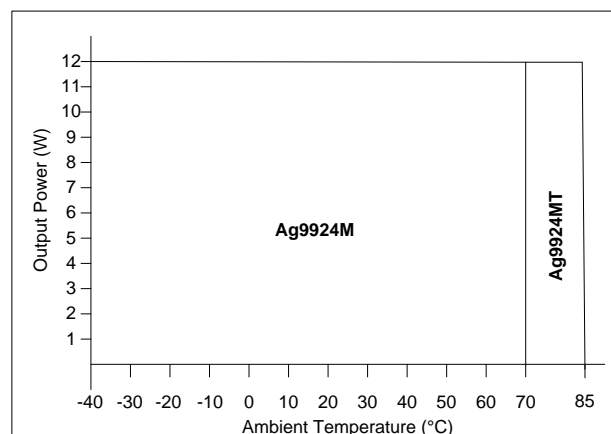
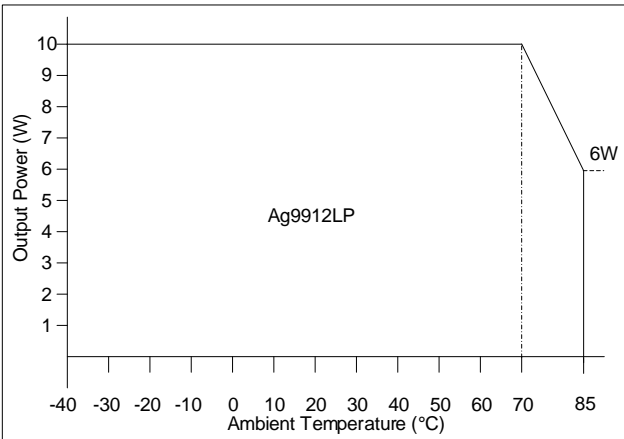
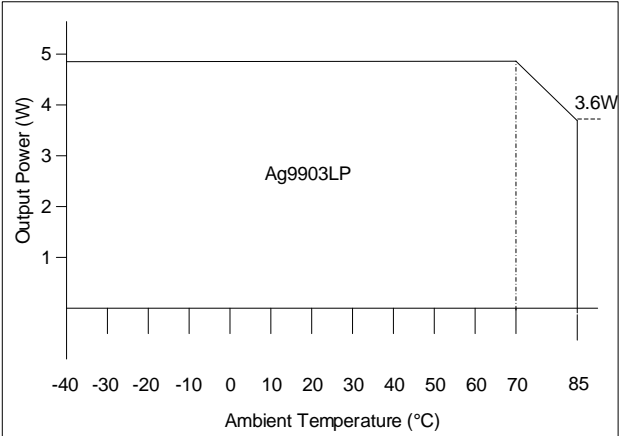
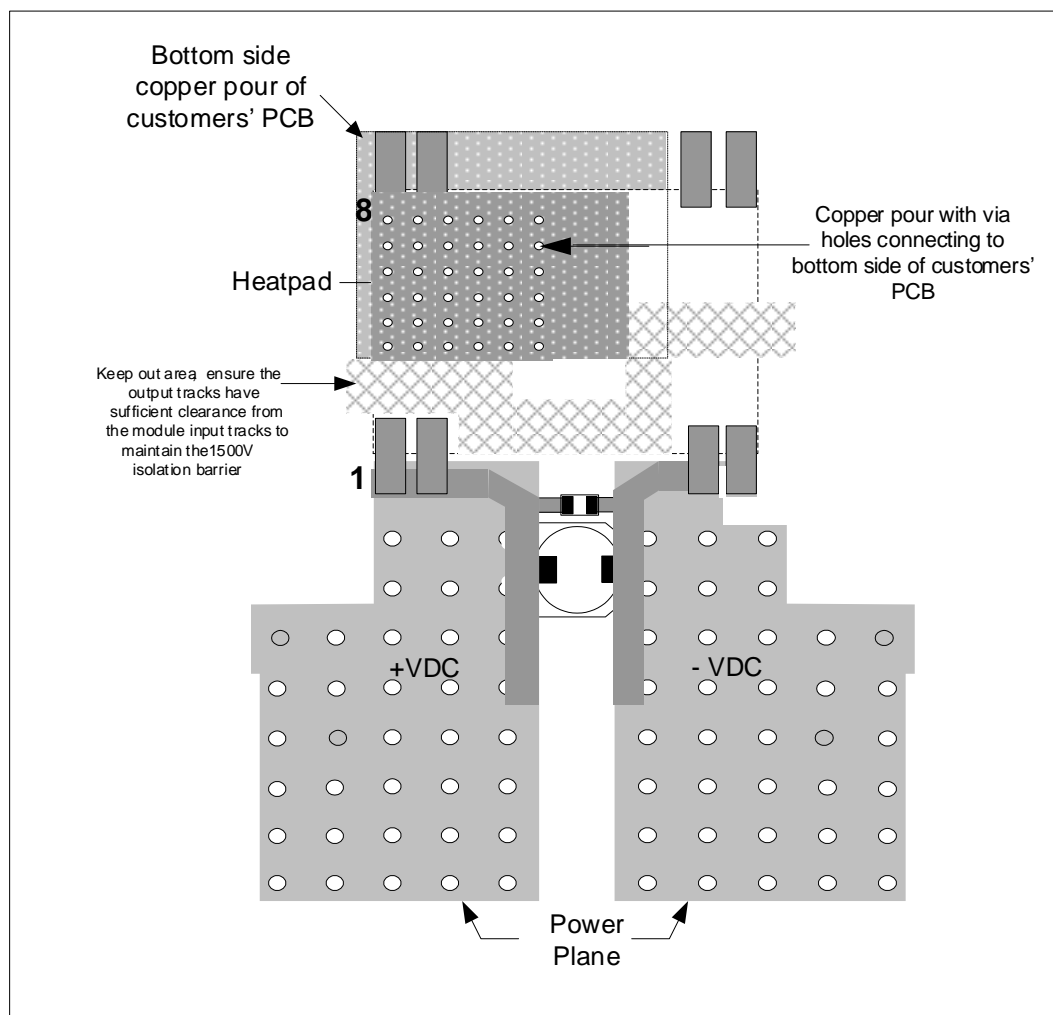

Figure 8: Ag9924M Operating Profile
Figure 10: Ag9912LP Operating Profile
Figure 14: Ag9903LP Operating Profile
Figure 15: Ag9900M Thermal Relief
The thermal protection reduces the output power, see Figure 8 through Figure 14, to ensure that the maximum component temperature is not exceeded. Full output power will be restored when the ambient temperature drops back down into the safe operating range.
The Ag9900M has a maximum ambient operating temperature of 70°C without any heat-sinking, while the Ag9900MT and Ag9900LP able to operate up to 85°C while heatsinking to a host PCB; see below Figure 8 through Figure 14. These results were performed in an environment chamber - Associated Environmental System SD-302. The performance of the Ag9900M can be improved by forcing the airflow directly over the part, and by using a thermal pad such as Bergquist .1" Ultra soft gap pad or thermal paste such as thermally conductive Oxime Cure paste. The customers PCB can then be thermally mounted (using a Bergquist 0.1" Ultra soft gap pad) to the chassis of the host equipment by using the thermal relief pads (see Figure 15 and application note "ANX-POE-Thermal-Considerations" for more information).
These power planes must be on the outer layers of the PCB and the best results are achieved by having power planes on both sides of the main board with multiple through-hole connections. An example of this is shown in Figure 15 with an Ag9900M module.
To meet the safety isolation requirements of IEEE802.3af section 33.4.1 a Powered Device (PD) must pass the electrical strength test of IEC 60950 sub clause 6.2. This calls for either a) 1500Vac test or b) 1500Vdc impulse test. The Ag9900 is specified to meet the 1500Vdc impulse test. It is also important that the tracks on either side of the isolation barrier have at least a 3mm clearance, see Figure 10 & Figure 14 for more information.